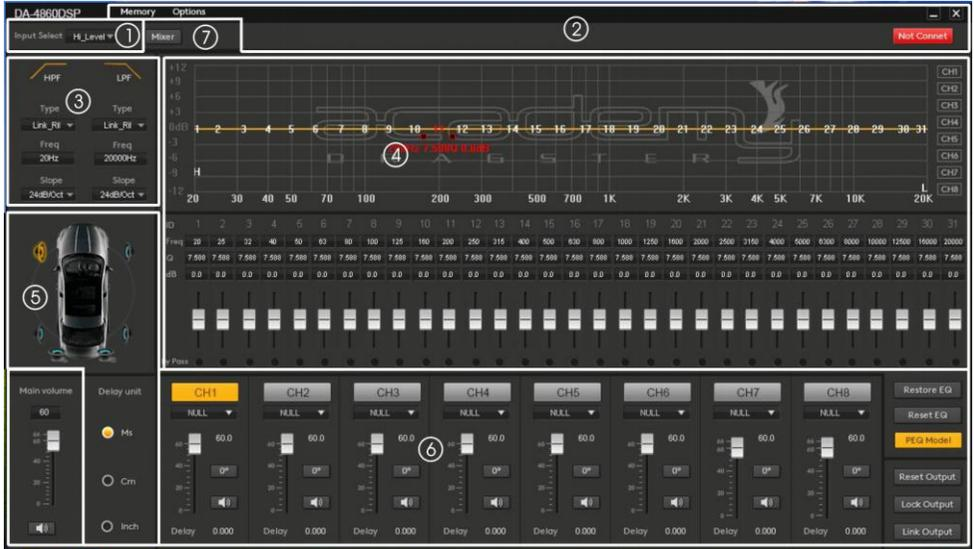

Figure 3.2.2
- 1 . as shown in figure 3.2.2, "1", input signal selection: high level, Phone, AUX and Player.
- 2 . as shown in figure 3.2.2 "2", shows the main menu and connection status.
- 3 . as shown in figure 3.2.2 "3", the high-pass and low-pass Settings of the divider.
- 4 . as shown in figure 3.2.2, "4", area is output channel EQ setting.
- 5 . as shown in figure 3.2.2, "5", shows the setting of delay space.
- 6 . As shown in figure 3.2.2,"6", output channel configuration and common parameter adjustment area.
- 7 . as shown in figure 3.2.2, "7", shows the setting of Mixer space.
In the online mode, in Figure 3.2.2 "1", click the appropriate input source, you can switch the audio input signal.
"6" area, click on the corresponding channel number in Figure 3.2.2 (CH1, CH2 ..... CH8), you can switch to the corresponding channel to adjust relevant parameters when changing the channel editing, where there are only 3.2. 2 "4" zone (crossover and equalization parameters) will vary depending on the channel and change the parameter values.
**Mixer settings:** click "mixer" in the "7" area in Figure 3.2.2, then you can switch to (Figure 3.3.14) the relevant parameter settings for the corresponding adjustment